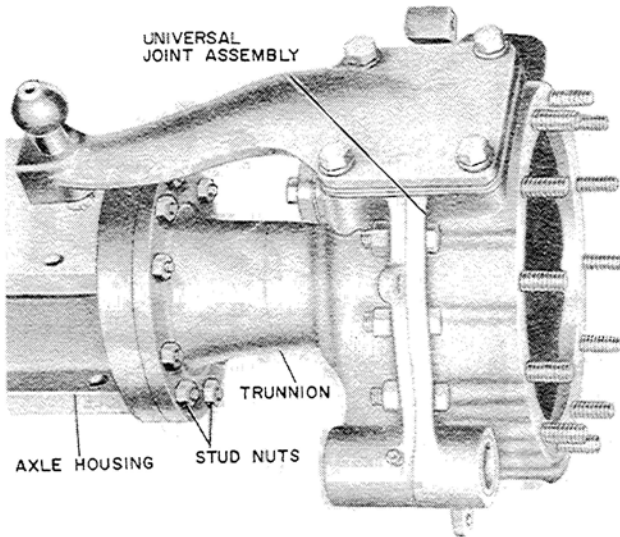

Figure U-34
1. Remove the trunnion to axle housing stud nuts, Figure U-34. Then remove the universal joint flange assembly, Figure U-34.